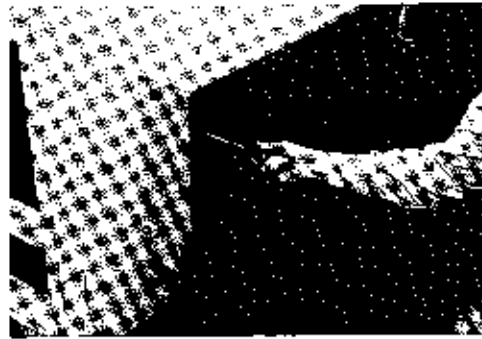

Figure 13.
9. Slide the chassis into the wall sleeve. Secure the chassis to the wall sleeve with the four screws provided—two on each side. Ensure that the tinnerman clips are fastened to the wall sleeve before securing with screws or the screws will not hold (see Figure 13).